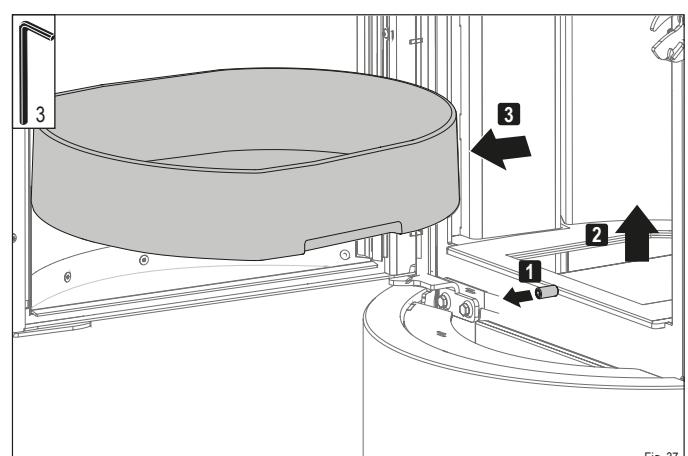

Fig. 37
- Remove the fire grate from the firebox (Fig. 37).